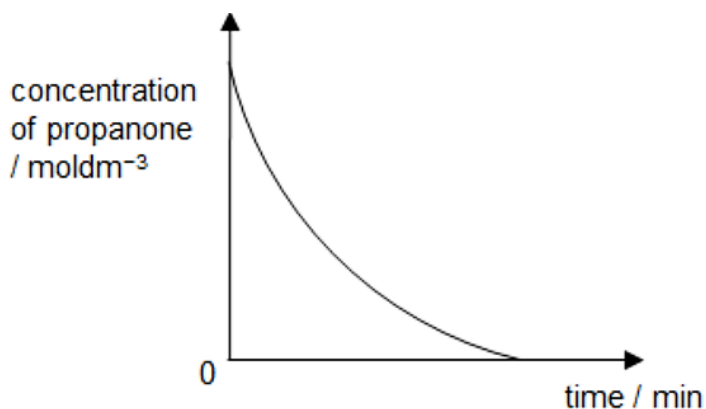

Fig. 9.1
In an experiment using 0.002 mol/dm^3 of aqueous iodine, the change in concentration of propanone was measured as the reaction progressed. The results are shown in **Fig. 9.1**.
- (b) Using information from **Fig. 9.1**, deduce which reagent, iodine or propanone, is in excess in this reaction. Explain your answer.